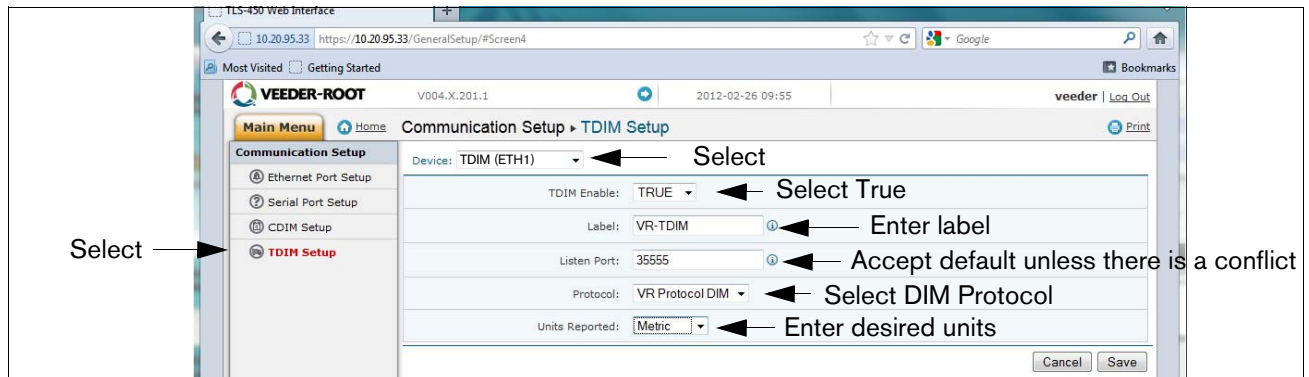

Figure B-8. TDIM Setup
10. Select “TDIM” set-up. Select “TDIM (ETH1)” from the drop-down menu. On the “TDIM Enable” drop down, select “TRUE” and type in a label (maximum of 20 characters). Then select the DIM protocol being used and click “Save”. Accept the default Listen Port (unless there is a conflict with another device) and select the desired units (see example in Figure B-8). Once this is complete, click on “Save” to keep these settings.